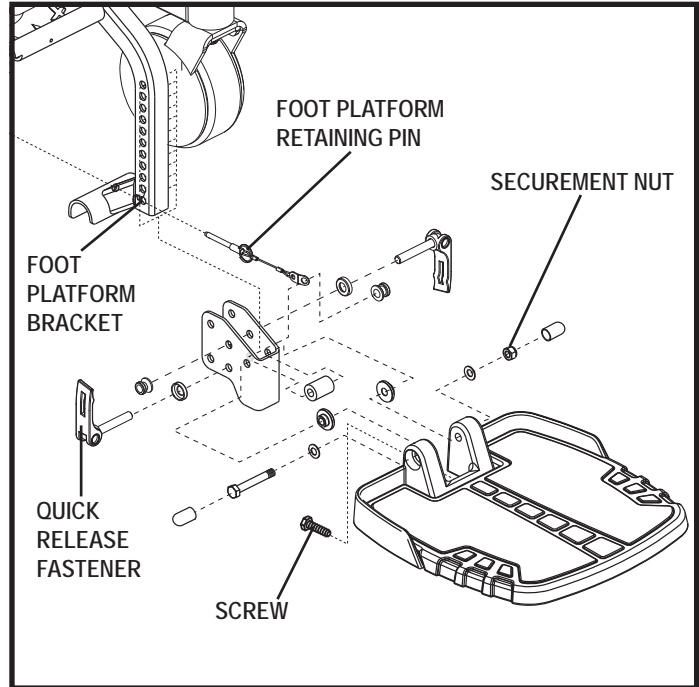
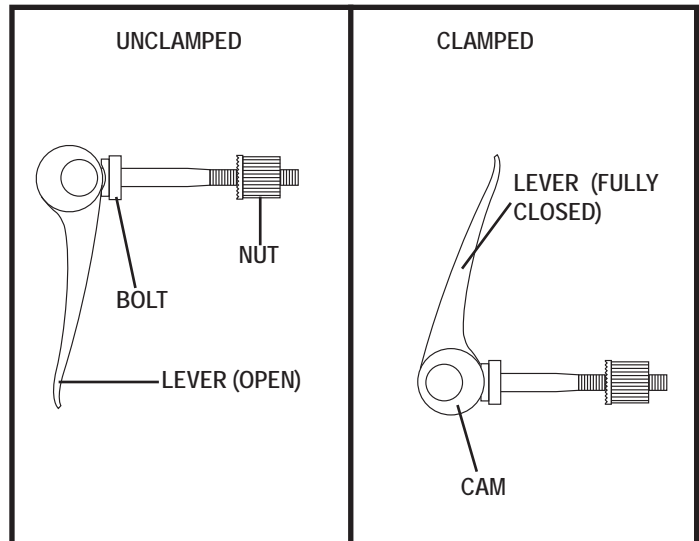

Figure 16. Foot Platform Adjustment
Figure 17. Quick Release Fastener Operation
1. Remove the quick release fasteners from the foot platform bracket. **See figure 16.**
Quick Release Fasteners: The foot platform is attached to the power base with two quick release fasteners. **See figure 16.** Each quick release fastener consists of a bolt, a lever, and a nut. **See figure 17.** The lever has a cam on the end that allows it to clamp into place. The quick release fastener has two states: clamped and unclamped. When the lever is open, the quick release fastener is unclamped. When the lever is closed, the quick release fastener is clamped.